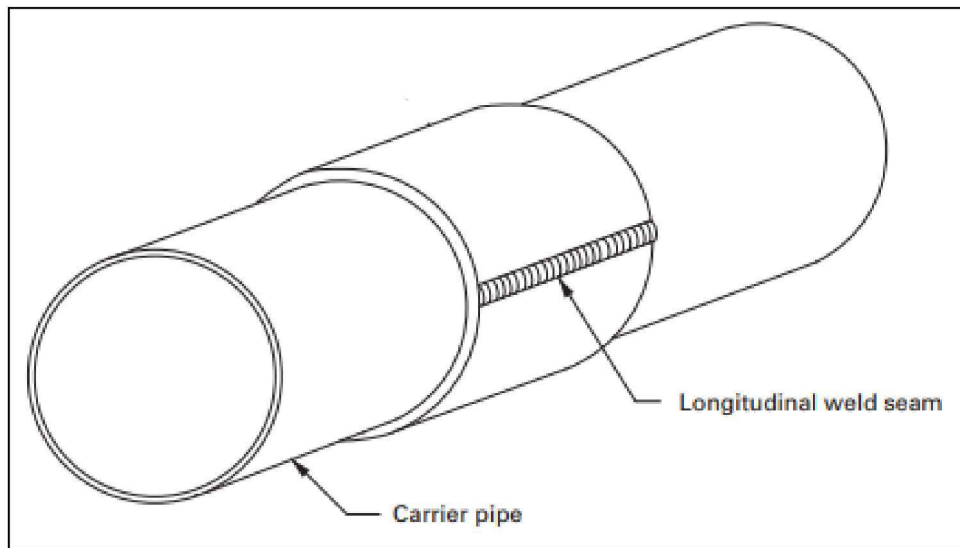

Figure 4
4. Weld the longitudinal joints as shown in Figure 4. This can assist in pulling the two halves of the saddle tightly around the pipe. Verify that the carbon steel backing strips are fully behind each longitudinal joint prior to welding. Start the root and the subsequent filler passes at the center and progress toward the end of the sleeves. Stringer beads are recommended. Stagger all starts and stops.